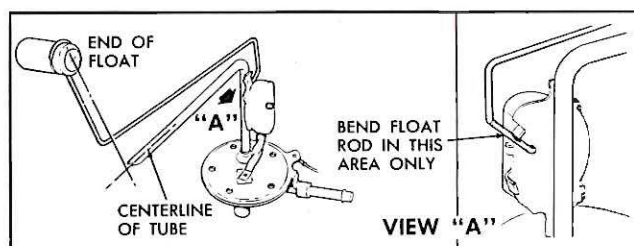

Fig. 7—Corrected Float Position
4. Bend the float arm in area "A" so the end of the float is in line with the centerline of the pickup tube (fig. 7). NOTE: When bending, the float must move parallel to the bottom of the tank. If the height of the float changes, the fuel gauge reading will be incorrect.